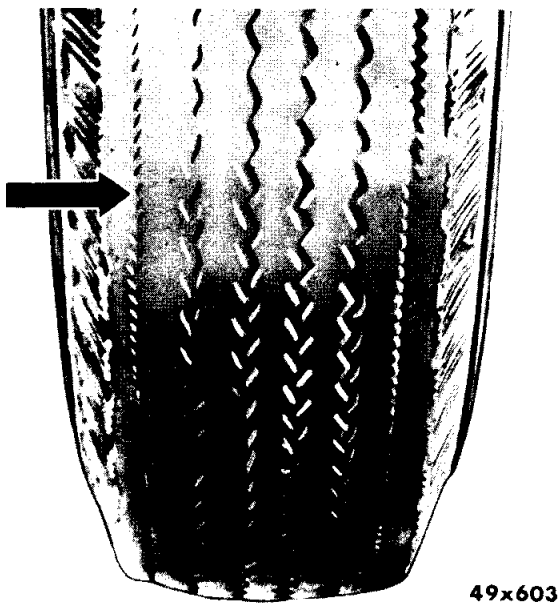

Fig. 28—Camber Wear
- b. Excessive positive camber will develop noticeable wear on the outer ribs of tires, as shown in Figure 28. Excessive negative cam-